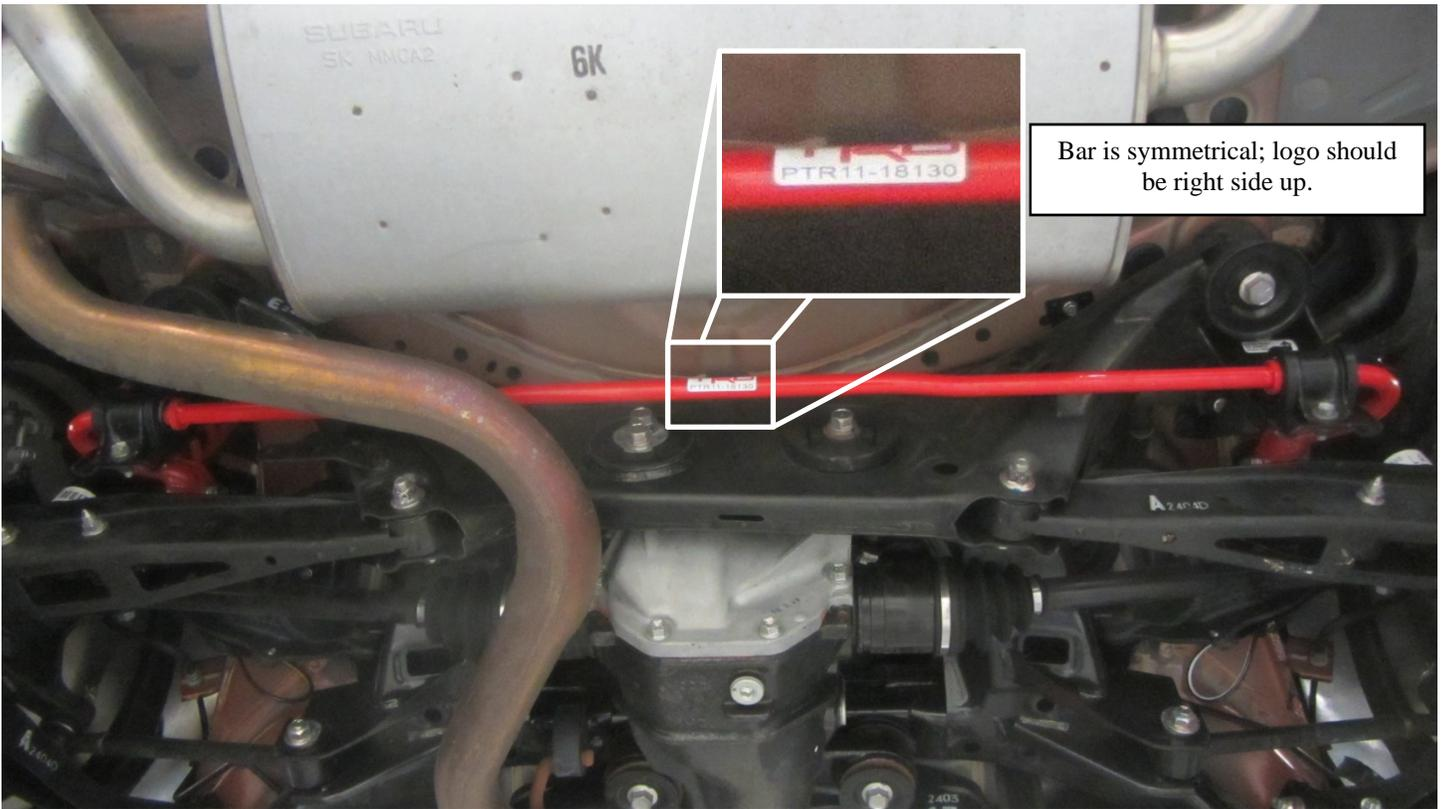

Fig. 5-7
- (j) Verify the orientation of the bar (Fig. 5-7).